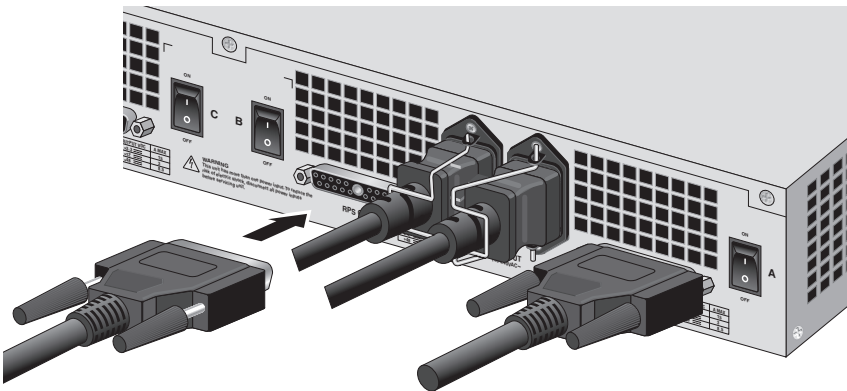

Figure 22. Connecting the RPS Cable to the AT-RPS3104 Unit
11. Plug the other end of the RPS cable into the appropriate RPS OUTPUT connector on the back panel of the AT-RPS3104 system (see Figure 22).